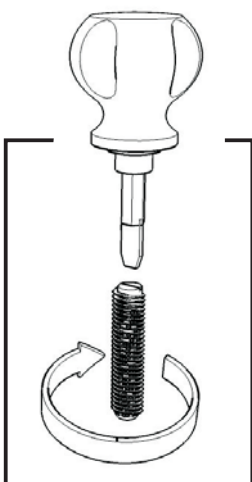

Figure 1
Attach 2 adjacent Legs (B) to Top (A) with Bolts, Flat Washers, Spring Washers, and Nuts. (See figure 1)